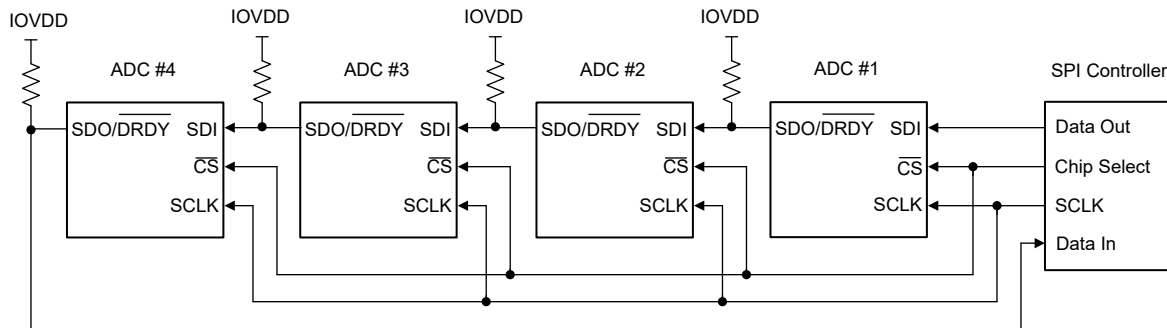
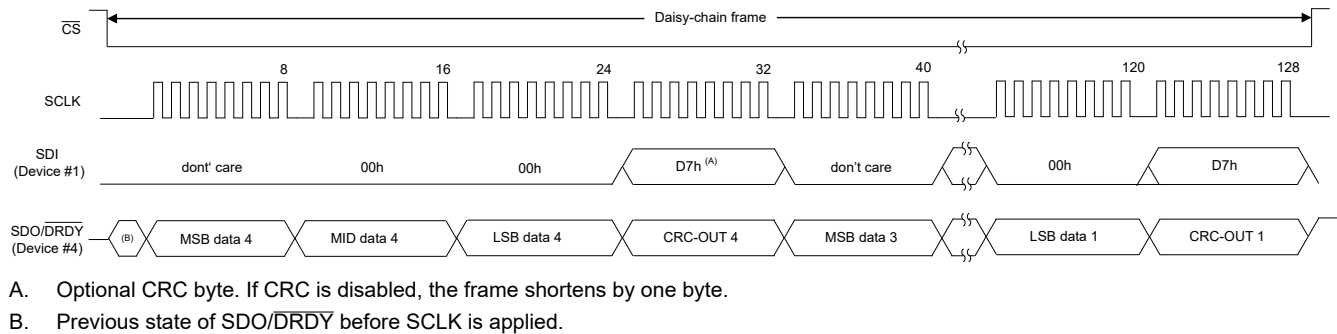

Figure 7-71. Daisy-Chain Connection
Figure 7-74. Read Conversion Data in Daisy-Chain Connection
Figure 7-71 shows four devices connected in a daisy-chain configuration. SDI of ADS125H18 (1) connects to the host SPI data output, and SDO/DRDY of ADS125H18 (4) connects to the host SPI data input. The shift operation is simultaneous for all devices in the chain. After each ADC shifts out the conversion data, the data of SDI appears on SDO/DRDY to drive the SDI of the next device in the chain. The shift operation continues until the last device in the chain is reached. The SPI frame ends when CS is taken high, at which time the data shifted into each device is interpreted. For daisy-chain operation, program the SDO/DRDY pin to data output only mode using the SDO_MODE bit.
Figure 7-71 shows a pull-up resistor at each data output pin. Use a 10kΩ pull-up resistor if the SDO/DRDY pin is used in dual-function mode for fast response times between SPI frames (this is especially important when using edge triggered interrupts). However, when only using the pin as an SDO, a weaker pull-up such as a 100kΩ resistor is sufficient.
Figure 7-73 shows the detailed input data sequence for the daisy-chain write register operation of Figure 7-71. 48 bit frames for each ADC are shown (24 bits of data, with the STATUS header and CRC byte enabled). Command operations can be different for each ADC. The read register operation requires a second frame operation to read out the register data.
Figure 7-74 shows the clock sequence to read conversion data from the device connection provided in Figure 7-71. This example illustrates a 32 bit output frame (24 bits of data, with the CRC byte enabled). The output data of ADC (4) is first in the sequence, followed by the data of ADC (3), and so on. The total number of clocks required to shift out the data is given by the number of bits per frame × the number of devices in the chain. In this example, 32 bit output frames × four devices result in 128 total clocks.